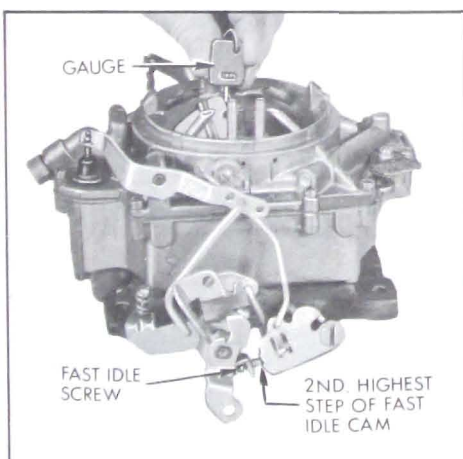

Figure 3-52—Checking Fast Idle Cam Adjustment
13. Remove both main metering jets from pump side of main body. See Figure 3-52. Remove power valve and gasket.
1. Fast Idle Cam Adjustment. Close throttle so that fast idle screw contacts second highest step of fast idle cam with side of screw against rise to high step of cam, then check clearance between choke valve and air horn dividing wall using .060" gauge. See Figure 3-52.